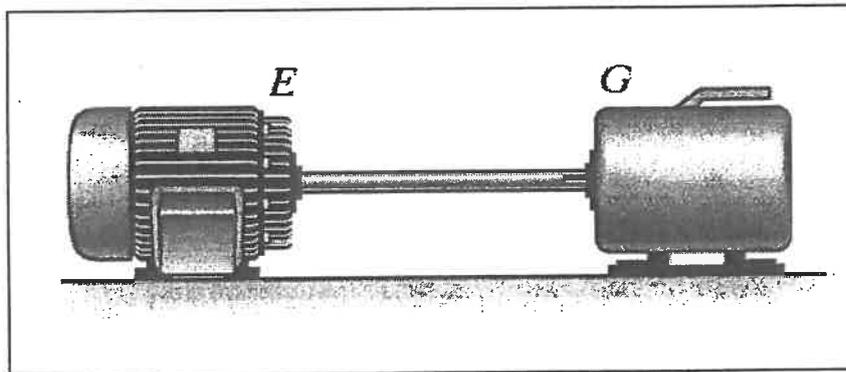

Figure 5
- (a) Figure 5 shows A-36 hollow steel shaft is 2 m long and has an outer diameter of 40 mm. The shaft is rotating at 80 rad/s and transmits 32 kW of power from engine *E* to generator *G*. If the allowable shear stress is $\tau_{\text{allow}} = 140 \text{ MPa}$ and the shaft is restricted not to twist more than 0.05 rad, determine the smallest thickness of the shaft.